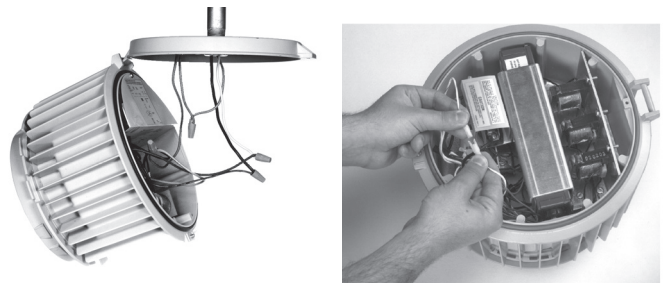

FIGURE 2
3. Hang ballast housing on the cover module hinge hook. See Figure 2.
5. On DMVFB Series Emergency Luminaires, connect the emergency ballast connector (white/red wires). See Figure 2. This is disconnected to avoid discharging the battery during shipment.